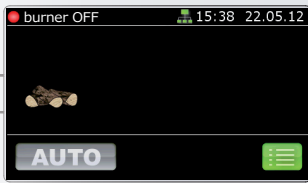

Fig. 52
3. Press the ON /OFF button. The display changes to the operating status BURNER ON (green spot) (Fig. 52).